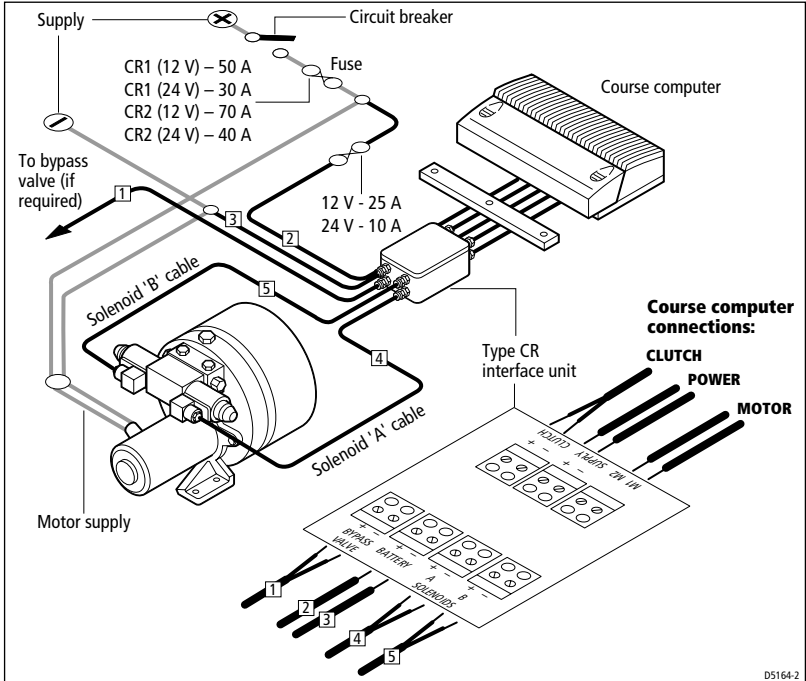

Figure 7: CR pump connections to a Type 100/300 course computer
- connect the solenoid valves to the CR interface as shown in *Figure 7*, using at least 16 AWG (1.5 mm²) cable.